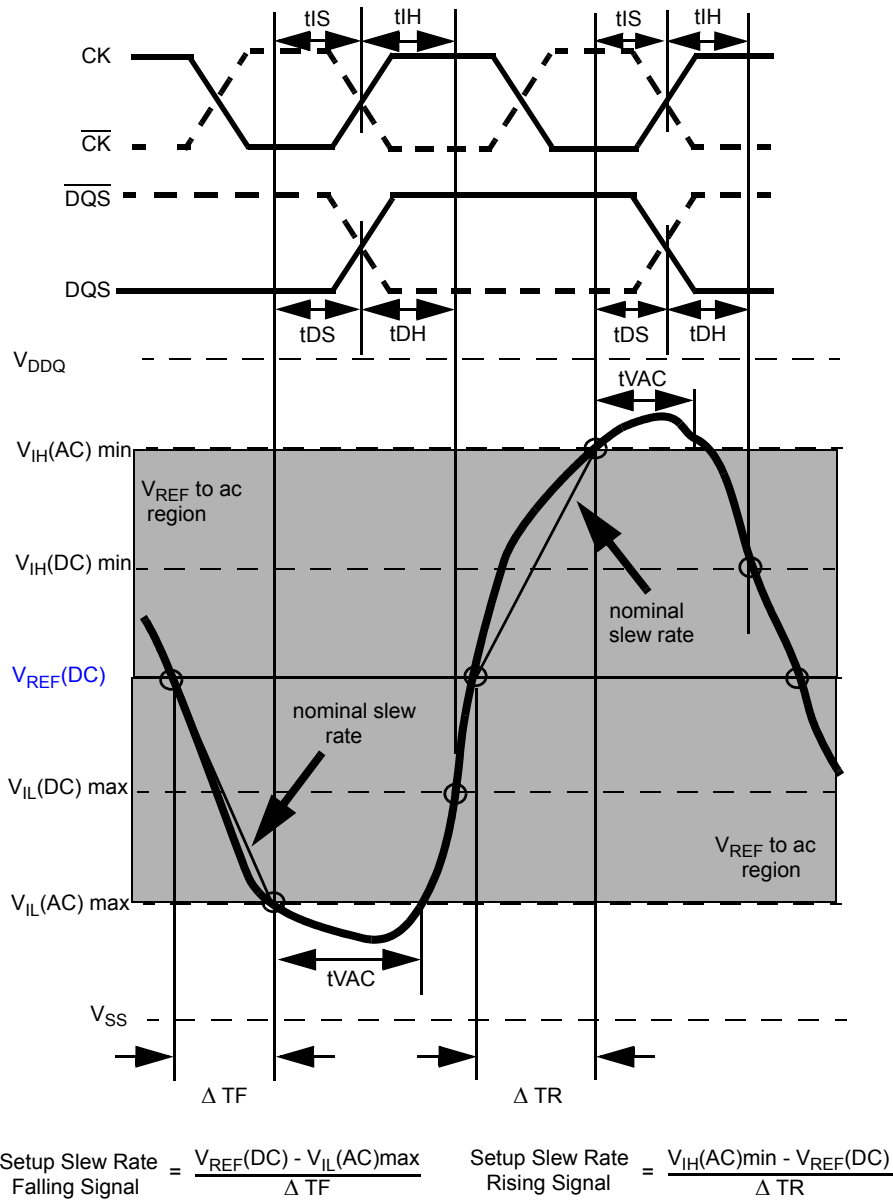
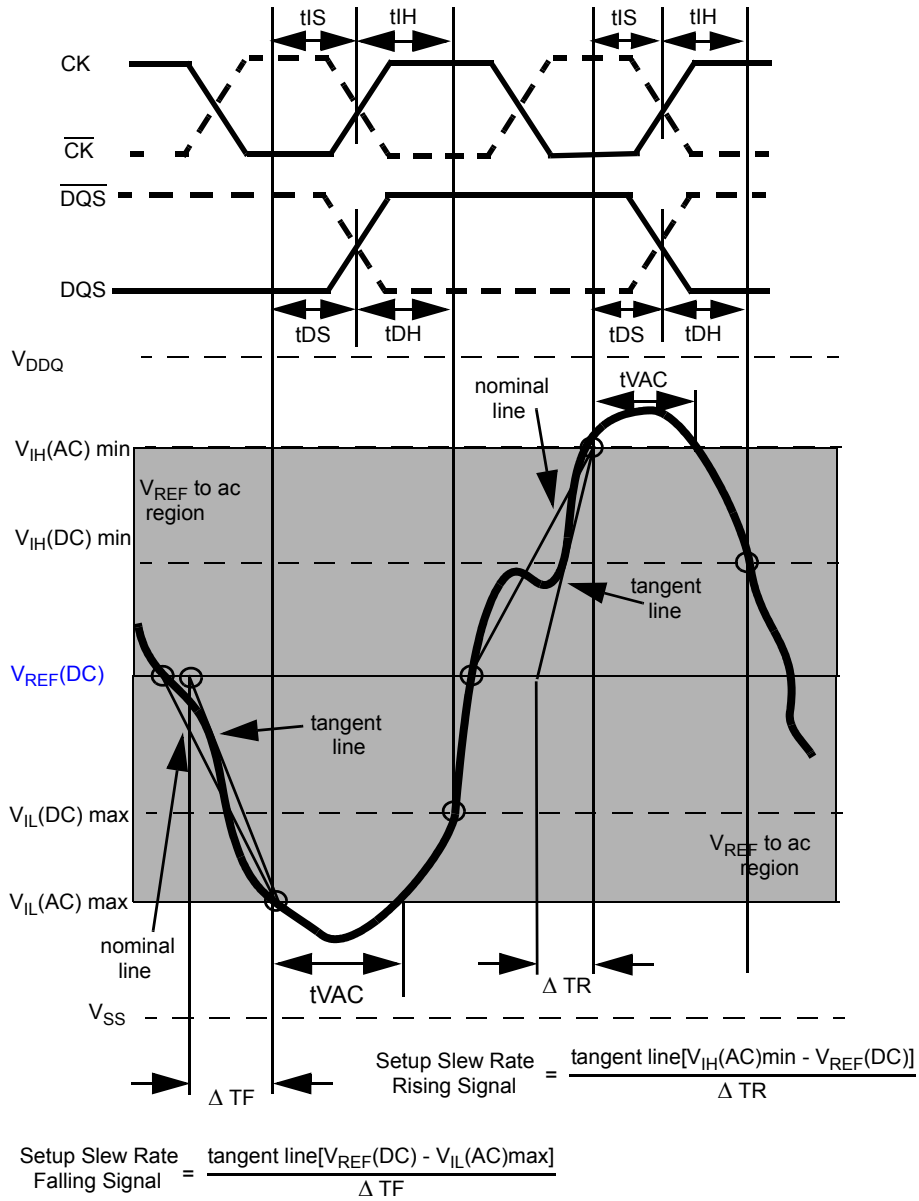

Figure 21. Illustration of nominal slew rate and t_{VAC} for setup time t_{DS} (for DQ with respect to strobe) and t_{IS} (for ADD/CMD with respect to clock).
Figure 23. Illustration of tangent line for setup time t_{DS} (for DQ with respect to strobe) and t_S (for ADD/CMD with respect to clock)
Example: tIS (total setup time) = tIS(base) + ΔtIS Setup (tIS) nominal slew rate for a rising signal is defined as the slew rate between the last crossing of V_{REF}(DC) and the first crossing of V_{IH}(AC)min. Setup (tIS) nominal slew rate for a falling signal is defined as the slew rate between the last crossing of V_{REF}(DC) and the first crossing of V_{IL}(AC)max. If the actual signal is always earlier than the nominal slew rate line between shaded 'V_{REF}(DC) to ac region', use nominal slew rate for derating value (see Figure 21). If the actual signal is later than the nominal slew rate line anywhere between shaded 'V_{REF}(DC) to ac region', the slew rate of a tangent line to the actual signal from the ac level to dc level is used for derating value (see Figure 23).